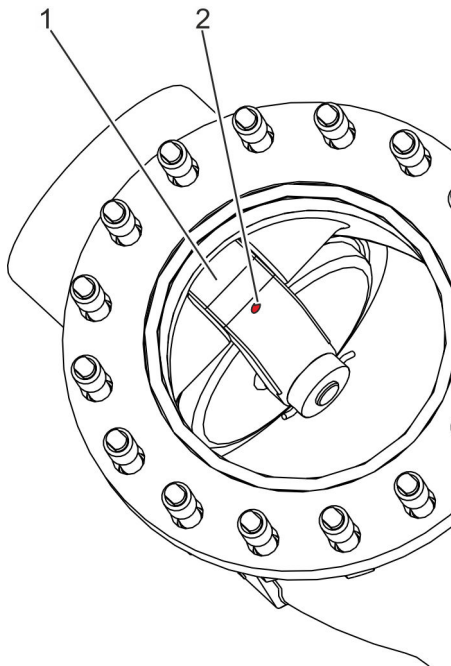

Fig. 32: Removing the ring bolt
- 17.▶ Remove the ring bolt from the bore (Fig. 32/2) in the disc lever (Fig. 32/1).